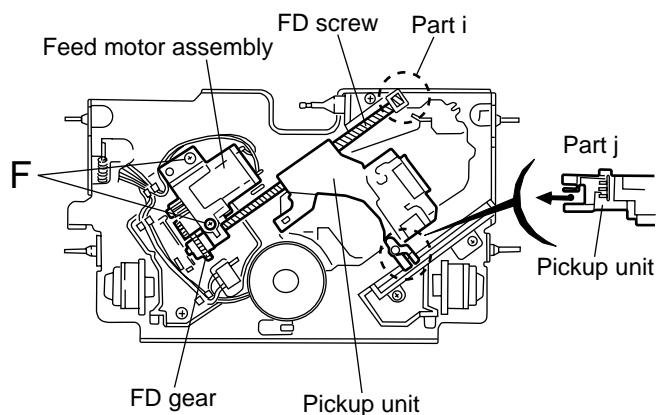

Fig.10
■ Removing the feed motor assembly (See Fig.10)
■ Removing the pickup unit (See Fig.10 and 11)